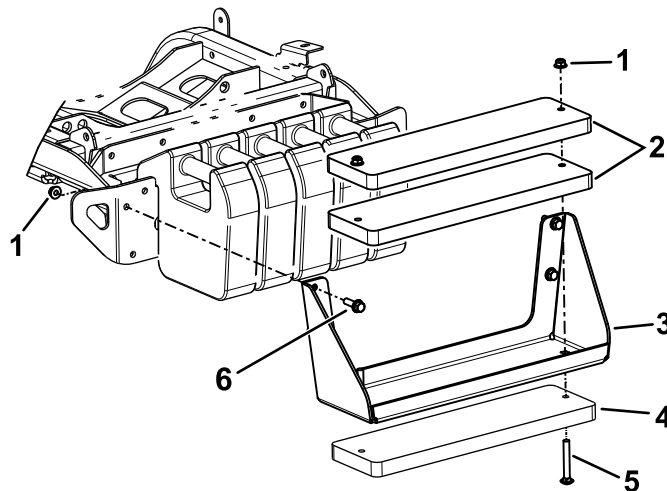

Figure 20
Note: Refer to Figure 20 for these steps.
- A. Use the bolts (3/8 x 4 inches) and nuts (3/8 inch) to secure the 3 weights to the bracket (Figure 20).
- B. Use the hex-head bolts and nuts (included in the kit) to secure the weight bracket to the machine (Figure 20).
- A. Remove the weight bracket from the machine (Figure 20).
- C. Use the bolts (3/8 x 4 inches) and nuts (3/8 inch) to secure the 3 weights to the bracket (Figure 20).
- D. Use the previously removed hardware to secure the weight bracket to the machine (Figure 20).